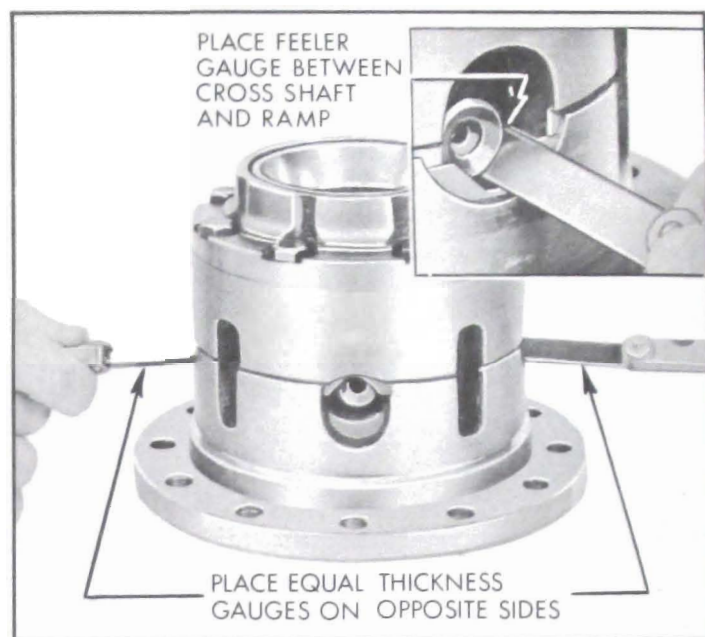

Figure 6-43—Checking Cross Shaft Clearance
2. Check each cross shaft clearance by inserting two equal feeler gauges, one at each end on opposite sides of the ramp. See figure 6-43.